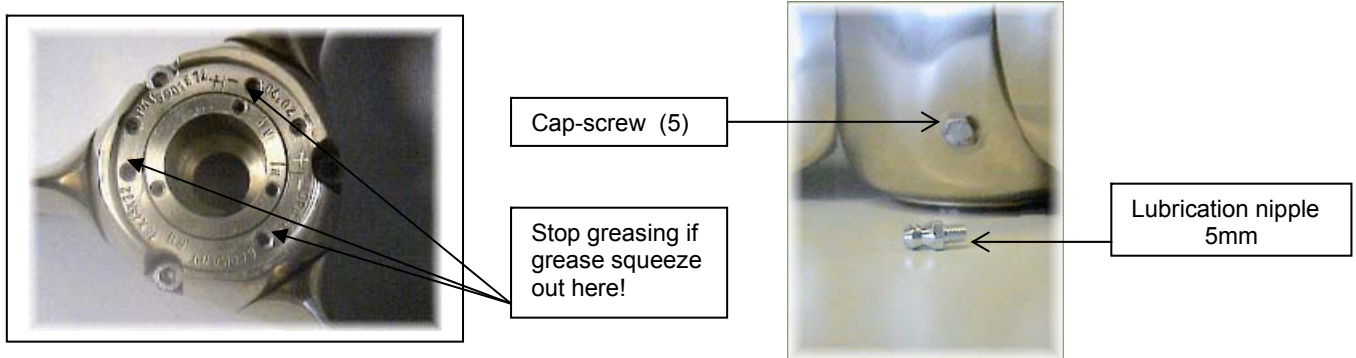

Fig.8
The VARIPROP needs to be greased a minimum of once a year. The VARIPROP body should always be completely filled with a high viscosity **grease** of a hydrophobic nature. Remove the cap screw (5) and screw in the lubricating nipple which is supplied with the tools. Further remove the zinc anode ! With each pump of the grease gun rotate the propeller from forward stop to reverse stop to allow the grease to work through the propeller. Stop to pump when enough grease comes out of the anode drill holes on top of the prop (Fig.8).